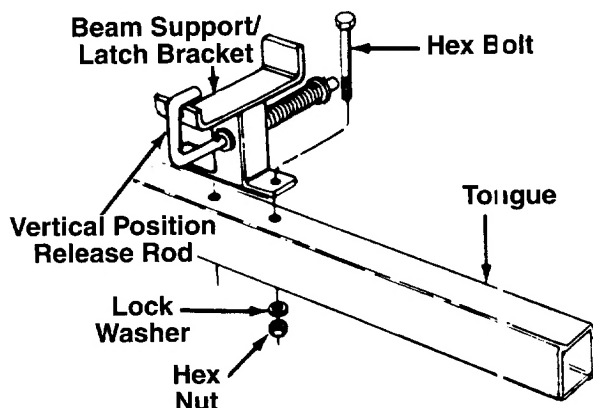

FIGURE 5.
2. Place the beam support/latch bracket on the tongue as shown in figure 5. Secure with hex bolts, lock washers and hex nuts just removed. Tighten securely.
1. Pull the locking rod on the beam support/latch bracket away from the log splitter tongue (refer to figure 5), and pivot it down. Carefully lower the wedge, beam and cylinder assembly to the horizontal position. Secure the beam with the locking rod.